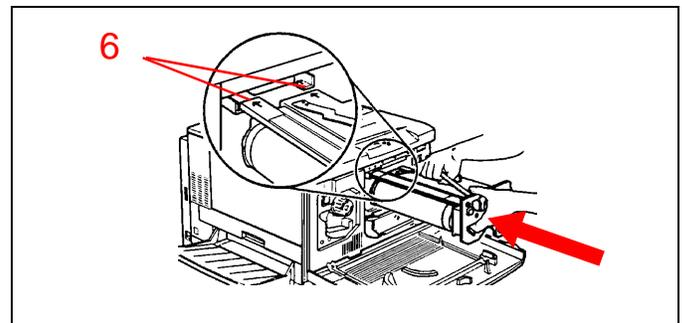

Figure 30
6. See Figure 30. Align the arrows on top of the cartridge with the rails and push the cartridge fully into the copier/printer.